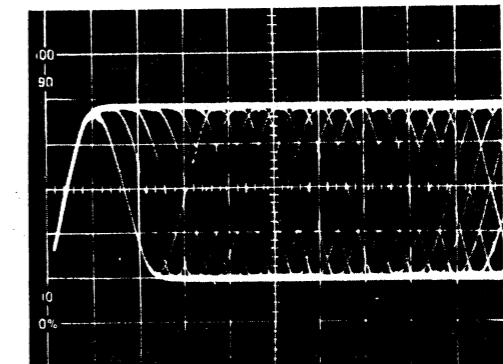

Fig: 4-12. RF Signal
2. Connect the oscilloscope to TP107 of SL-P7 or CN109 pin ③ / RF test pin of SL-P8.
4. Confirm that the RF signal is as shown in Figure 4-12. If it is not present, proceed to next step. If RF signal is as shown, skip step 5.